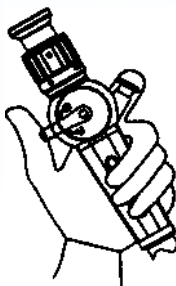

Fig. 3
- (1) To check out the exhaust connect exhaust valve to the aspirator, (not included into delivery set) and set suction of the aspiration no less than 50 kPa.
- (2) Connect exhaust valve to the aspirator and to the aspiration channel on the handle of the bronchoscope.
- (3) Switch on aspirator. Plunge distal end into the water, regulation of exhaust is done by means of exhaust valve. (see fig.3)